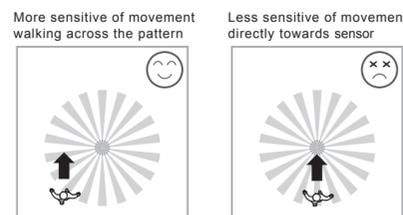

FIG.3
3.1.2 Pay attention to the walking direction in the test proceeding. It is more sensitive to movement across the sensor and less sensitive to movement directly toward to sensor which will reduce the detection coverage (See FIG.3).